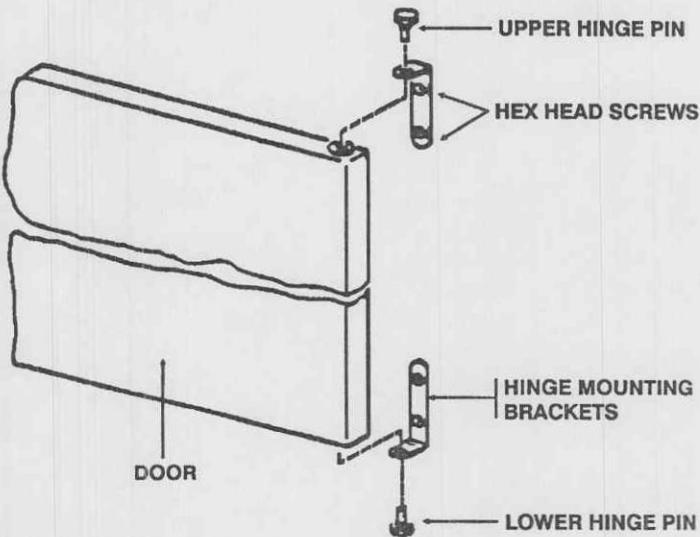
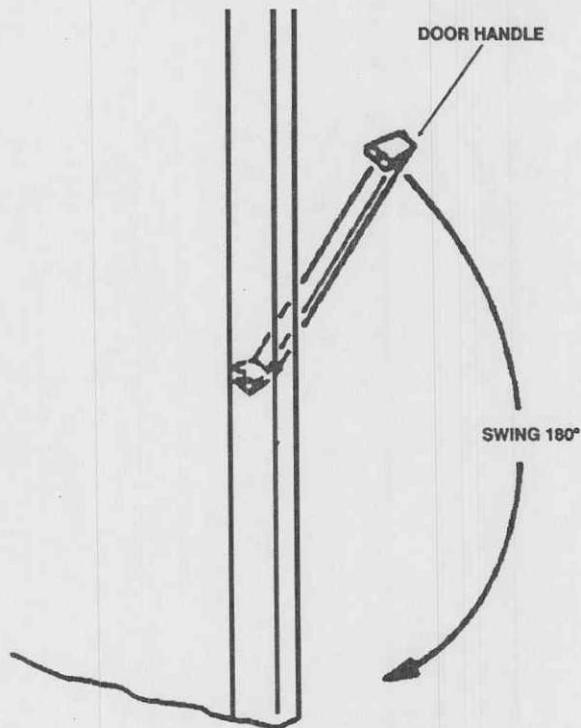

Figure 3-12. Door hinges.
Figure 3-15. Door handle.
c. Door swing conversion (fig 3-12 through fig 3-15). The warming cabinet door may be converted from right hand to left hand or left hand to right hand swing. Conversion procedures are as follows:
(1) Remove the upper and lower hinge pins while holding the door closed against the cabinet. Remove the door and set it aside.
(2) Remove the two hex head screws from both the upper and lower hinge mounting brackets.
(3) Remove the two sets of screws, trim washers, and stiffeners from the opposite side of the warming cabinet and reinstall them in the holes where the upper and lower hinge mounting brackets were just removed.
(4) In turn, reinstall the hinge mounting brackets on the opposite side using the two screws previously removed from each bracket.
(5) Remove the three screws and the door striker plate assembly.
(6) Remove the three washer-head screws from the identical mounting position of the opposite side panel and reinstall them where the door striker panel assembly was removed in the preceding step.